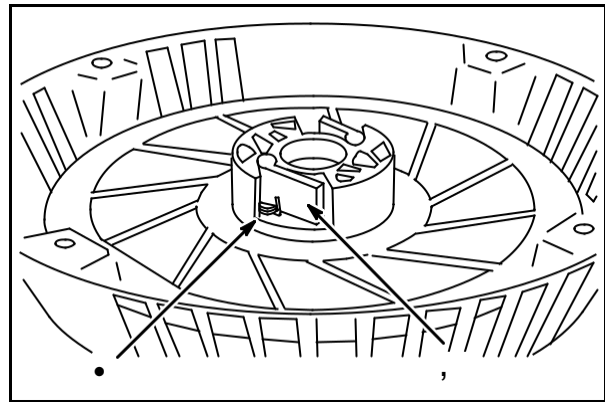

Fig. 72
Install dogs (2) and dog springs (1) in pulley, **Fig. 72**.